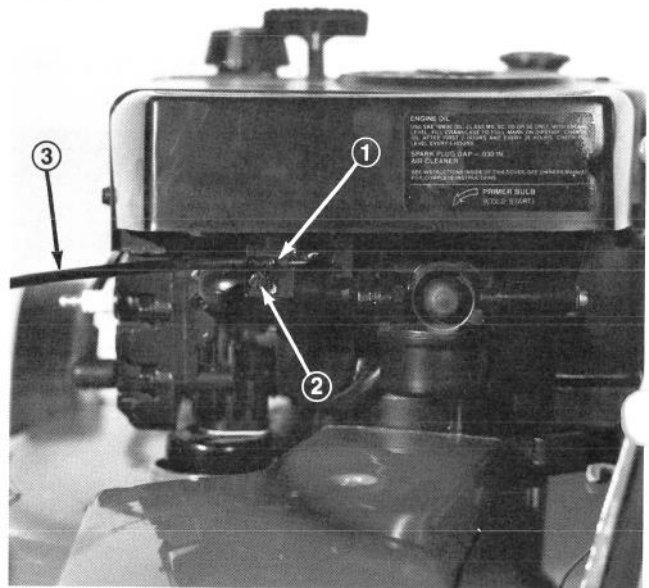

Figure 36
2. Loosen cable clamp screw until throttle cable is free to slide (Fig. 36).
3. Move carburetor control arm to the left until it contacts grounding bracket (Fig. 36). Pull throttle cable slightly to remove any slack and tighten the cable clamp screw to lock the adjustment in place.